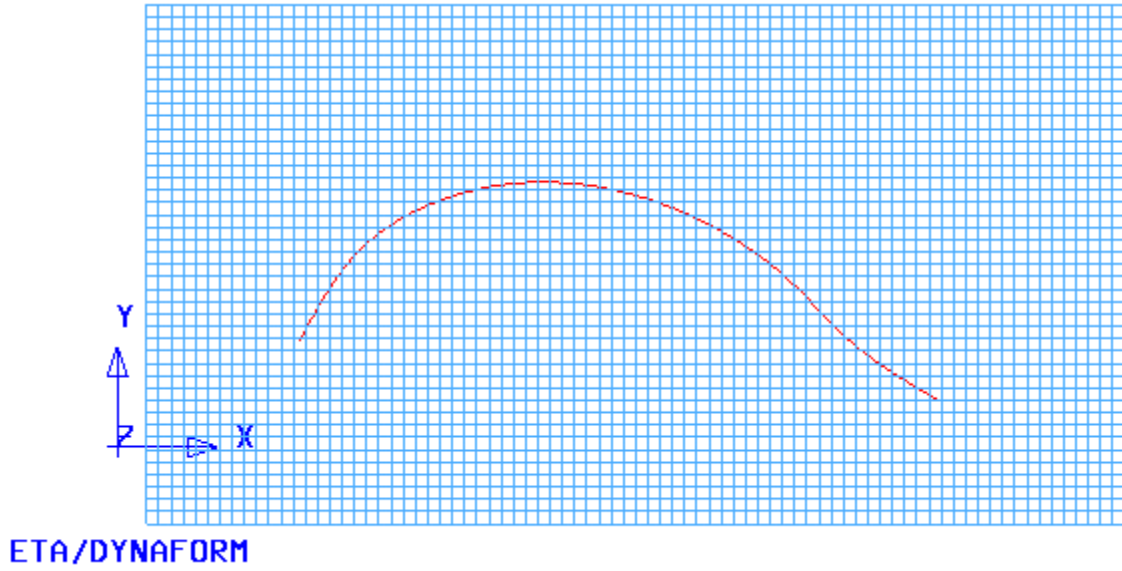

Figure 6.5.16 Select Drawhead Outline
- Select a line as illustrated in Figure 6.5.16.